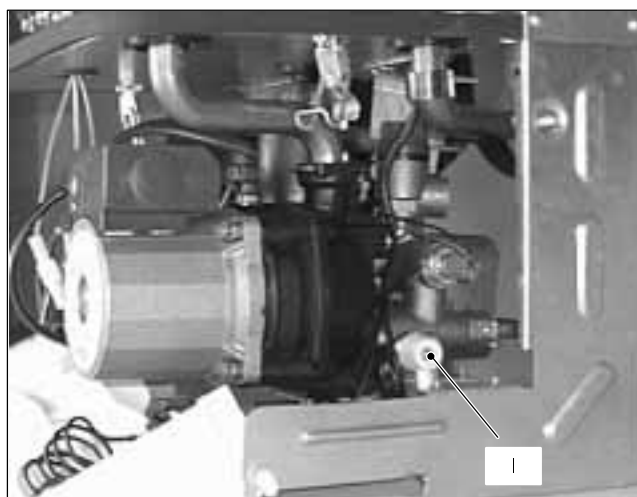

Fig. 8
- 3 Open the drain tap *I* (Fig. 8) until the boiler is completely emptied.